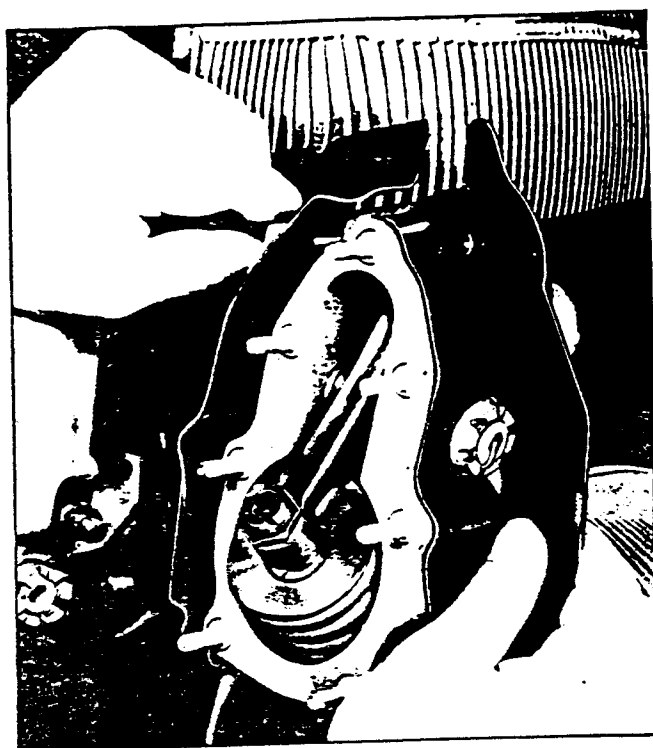

Figure 29. Installing Rocker Box Deflector Bolt
2. **CYLINDER AND INLET ROCKER BOX DEFLECTORS INSTALLATION.**- Install the deflectors on the inlet rocker boxes and hold each pair in place with a nut and bolt. (See figure 29.) Do not tighten the bolt at this time. Place the cylinder deflector retaining band around the cylinder and install the cylinder deflectors. (See figure 30.) Secure each pair of deflectors with the retaining band at the hold-down flange of the cylinder. Secure each pair of inlet rocker box deflectors and cylinder deflectors with the long bolt, two washers, and nut, inserting the bolt through the drilled hole in the cylinder head. (See figure 31.) Secure the cylinder deflectors to the studs on the sides of the cylinder with the nuts; then tighten each inlet rocker box deflector nut.